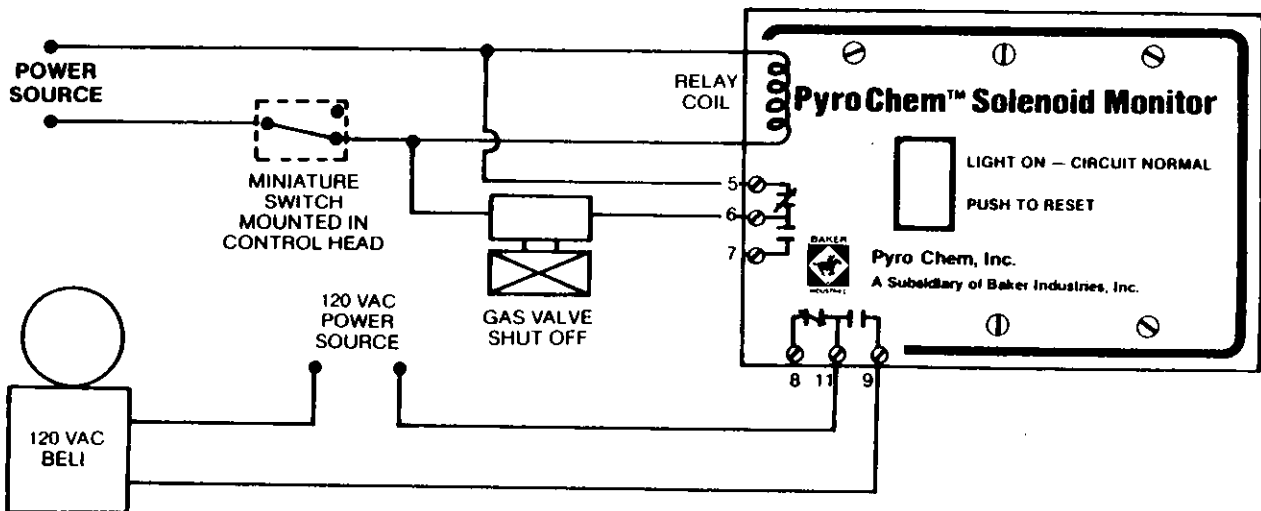

Figure 5-3. Wiring Diagram with Bell and Electric Gas Shutoff Valve
B. SOLENOID MONITOR USED AS A RESET RELAY — The solenoid monitors, Models SM24 and SM120 can be used as a reset relay when required. A reset relay is required whenever an electrical gas shut-off valve is used in conjunction with the Pyro Chem wet chemical system. Figure 5-3 shows a typical method of connecting the electrical gas valve to the reset relay.